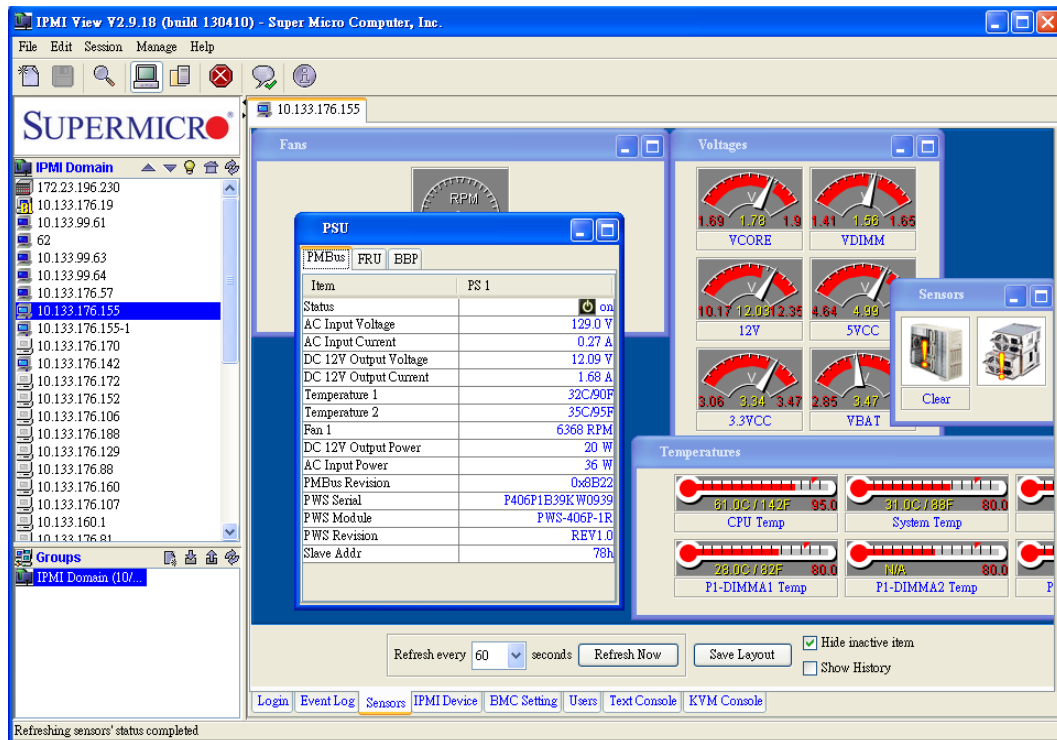

Figure 5-1
This feature displays the status of each sensor used to monitor system health as shown in Figure 5-1.
1. The battery can be automatically or manually discharged. In the PSU dialog box (see Figure 5-1), click the **BBP** tab.